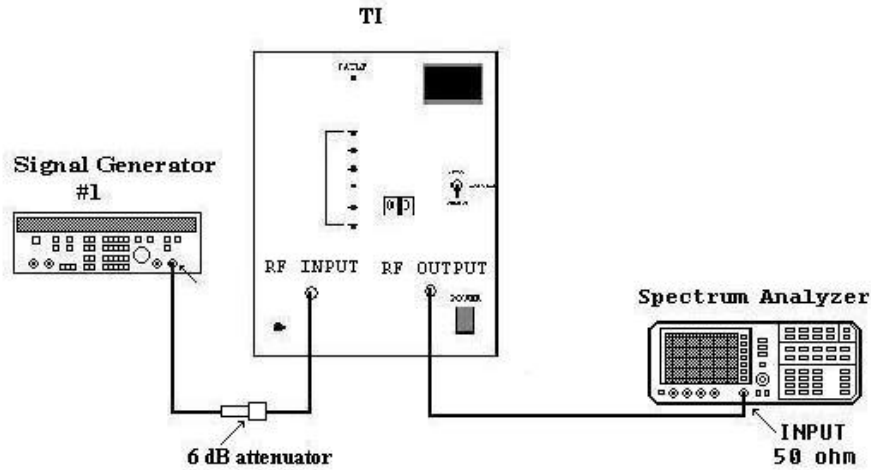

Figure 2. Harmonic Rejection
(1) Connect equipment as shown in figure 2.
(2) Set the TI **AUTO/MANUAL/SELECT** switch to the center position, **MANUAL** (manual operation), and set the thumb wheels to select range **01**. Press the **AUTO/MANUAL/SELECT** switch down momentarily to activate the TI range.